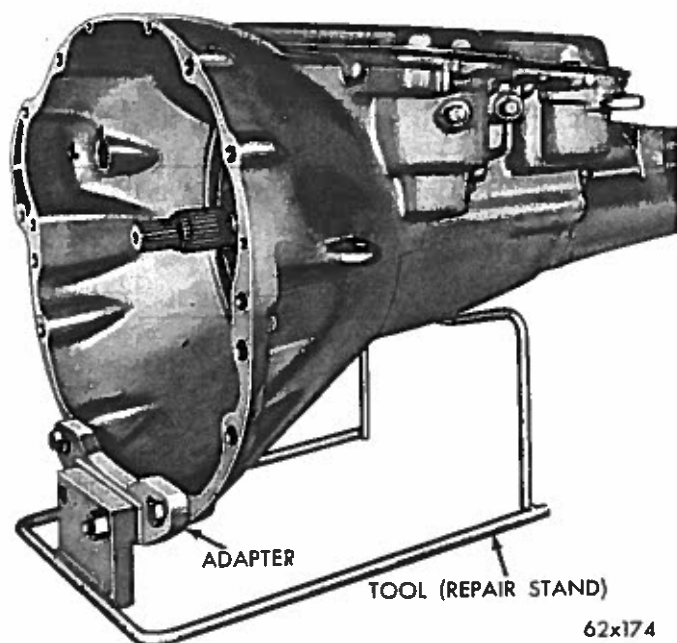

Fig. 44—Transmission Installed in Repair Stand
(1) Place transmission assembly in repair stand, Tool C-3750 with adapter C-3882 (Fig. 44).
(2) Unscrew oil pan bolts and remove oil pan and gasket.